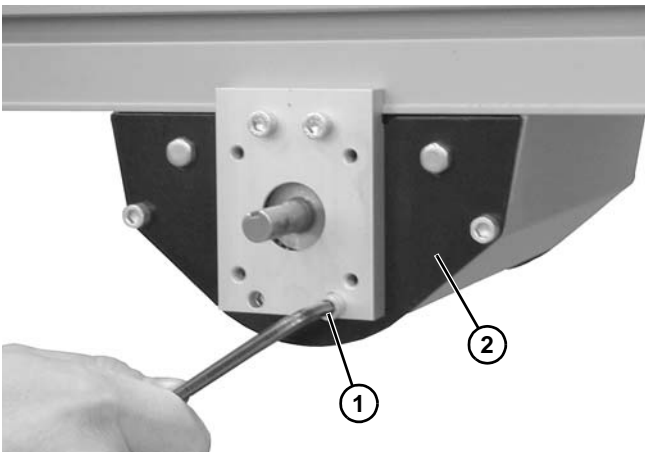

Figure 52
2. Remove screw (Figure 52, item 1) from each side of mid drive assembly (Figure 52, item 2).